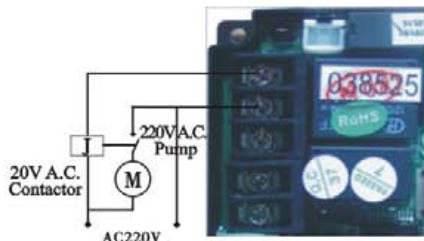

Figure 3-8 Wiring of Booster Pump on Inlet
**Instruction:** If inlet water pressure is less than 0.15MPa, which makes backwash or brine difficult, a booster pump is suggested to be installed on inlet. Control mode b-01. When system in regeneration cycle, booster pump is open, the wiring refer to Figure 3-7.If the booster pump current is bigger than 5A, system need to install an contactor, the wiring refer to Figure3-8.